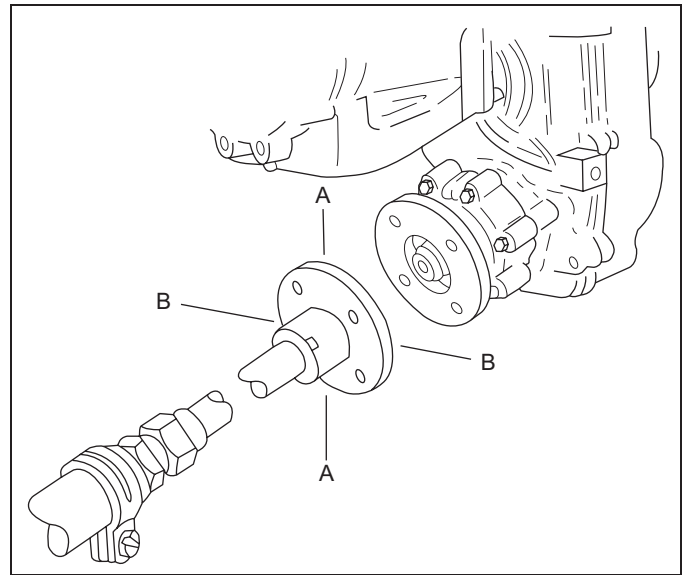

Figure 11-27 Centering Prop Shaft
2. Center the propeller shaft in the shaft log as follows: (Figure 11-27)